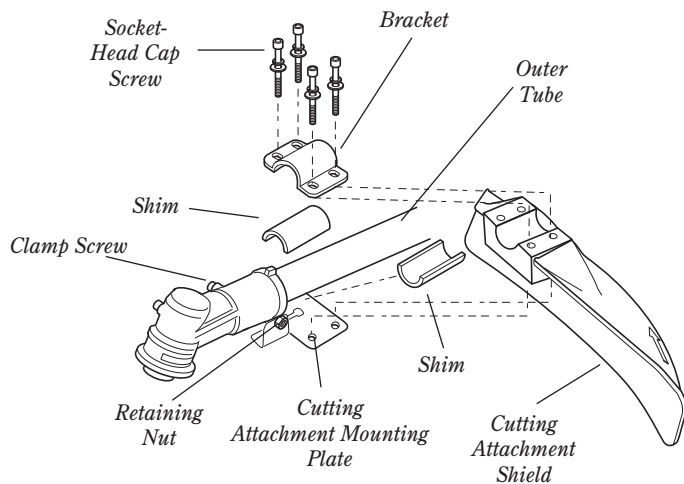

Figure 5
1. Insert the cutting attachment shield between the outer tube and the cutting attachment mounting plate. See Figure 5.
2. Fit the two shims and the bracket over the outer tube and loosely install the four socket-head screws. See Figure 5.